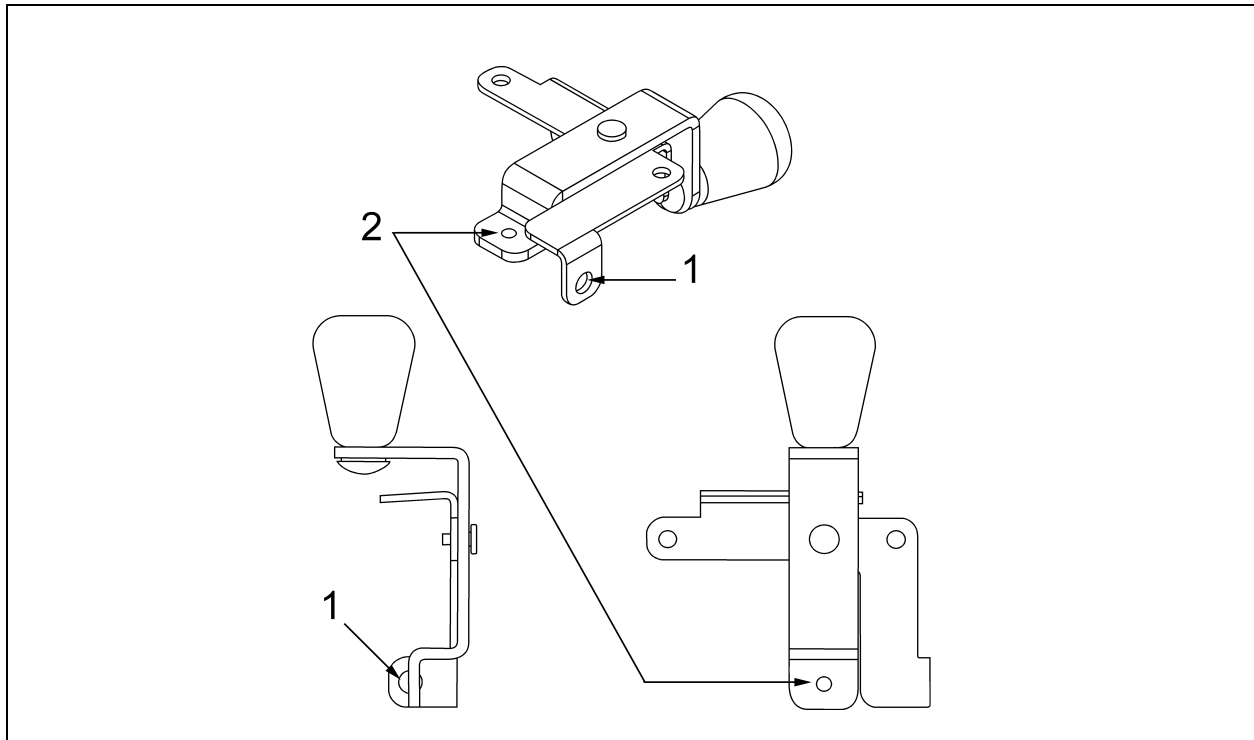

Figure 10: New operating knob assembly. **(1)** Hole in which the cable's threaded end has to be fixed; **(2)** Hole in which a #8 x 3/8 screw will hold the cable.
- Fix the cable's threaded end to the control knob's support (figure 10, item 1) using two ¼-28 nuts. Secure the cable around a #8 x 3/8 screw to be fixed onto the lever (figure 10, item 2);